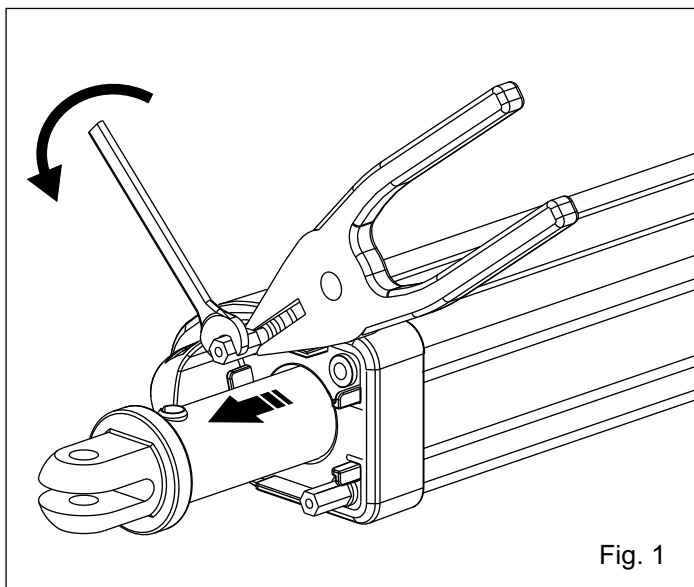

Fig. 1
1. Unscrew the 2 hexagonal nuts that you find on ALPHA operator of about 3/5 mm or just the minimum essential in order to insert a tip chuck for blocking the internal tie rod, at this point unscrew completely the nuts (Fig. 1).